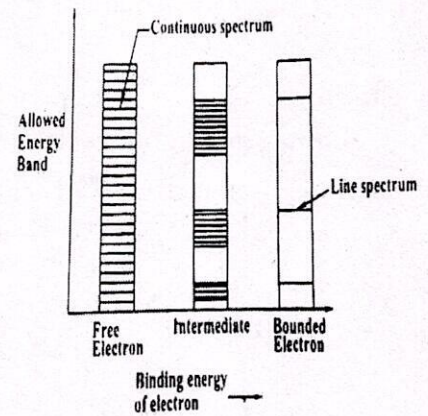

Fig.5
- (vi) Thus by varying P from 0 to ∞ , we get the energy spectra of all energies as shown in fig. 5.